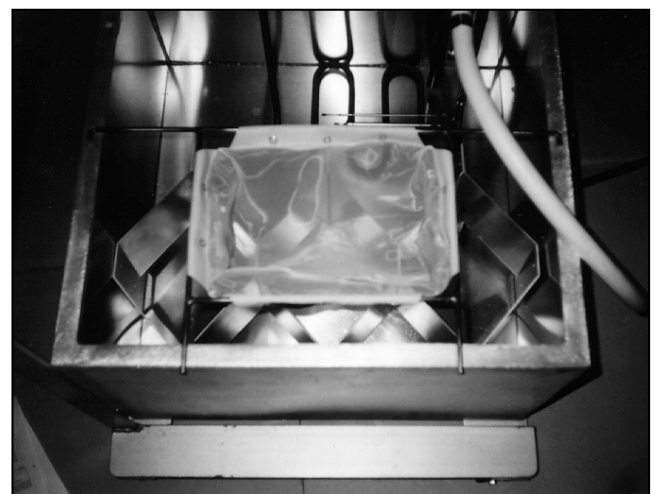

Figure 1-12. Positioning the Filter bag and frame for Filtering.
4. Position the shortening filter bag and frame on the EZMelt kettle. The edge of the kettle has one or two sets of holes in it. Use the set of holes that is farther from the heater head. When two of the filter frame's pins rest in these holes, the filter bag and frame rests horizontally on the end of the kettle. (See Figure 1-12.)